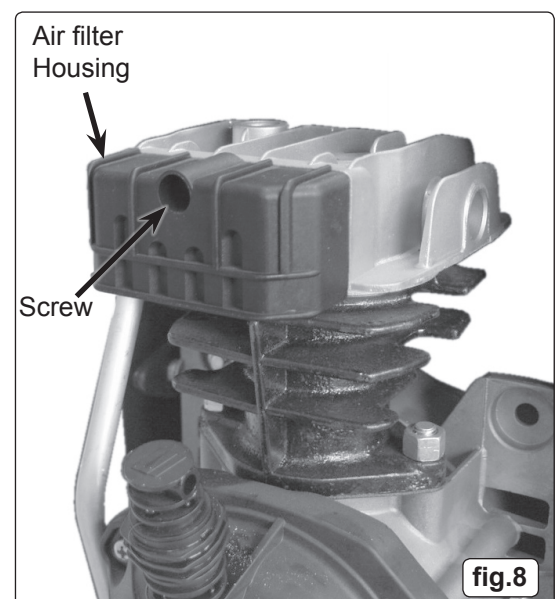

fig.8
- a) Unscrew the air filter housing and remove the filter element (fig.8) and wash in soapy water, rinse and dry. Do not operate the compressor without the filter as foreign bodies or dust could seriously damage the pump.
- a) Replace air filter. (See fig.8)